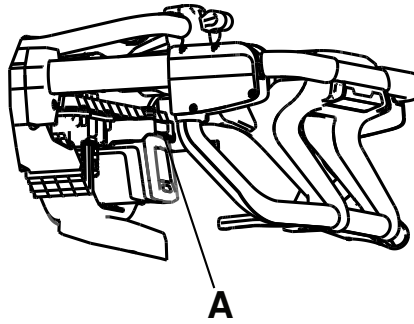

Figure 37 – Battery release button
1. Press the battery release button (A) to release the battery from the product (Figure 37).